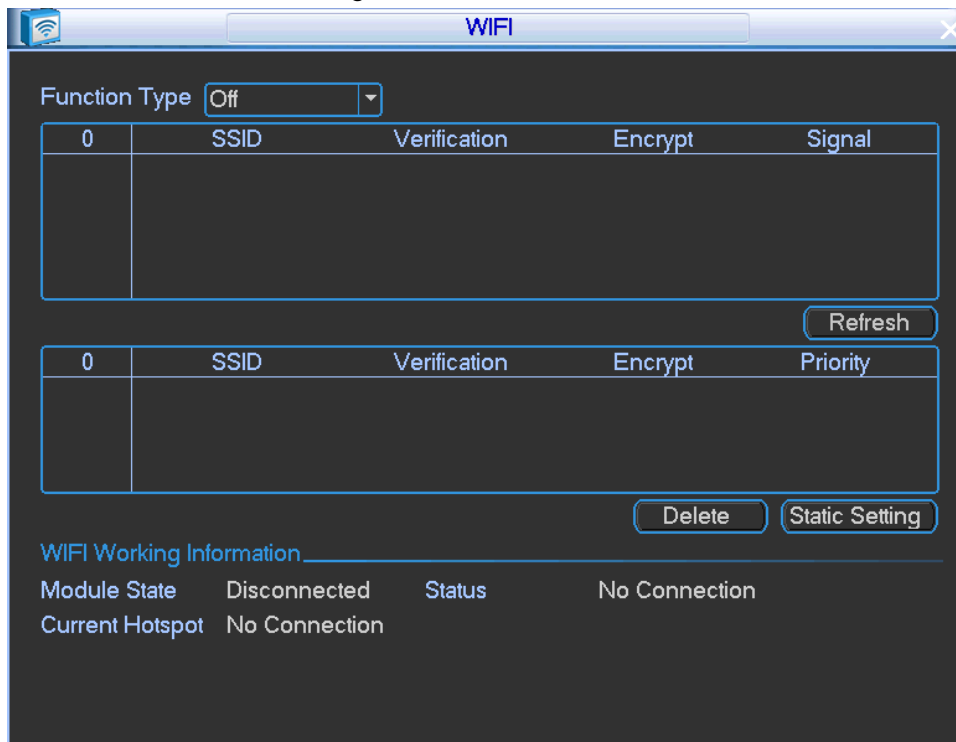

Figure 4-71
Step 1 On the main menu, from Vehicle->Wi-Fi, Enter Wi-Fi interface. See Figure 4-71.